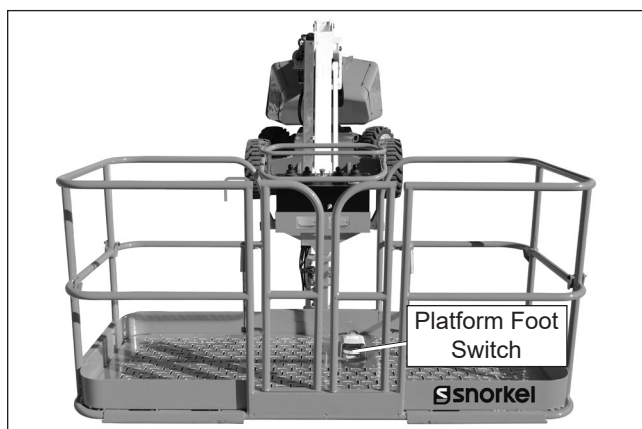

Figure 10.4 – Platform Foot Switch
2. Step down on the platform foot switch (refer to Figure 10.4).